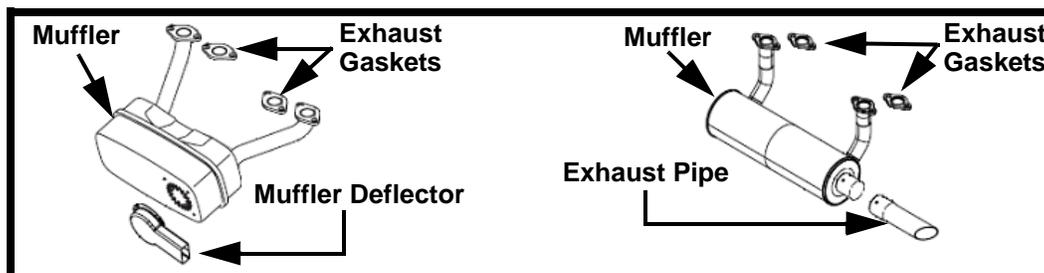

FIGURE 1
1. Make sure the required muffler deflector or exhaust pipe is removed from the old muffler and installed onto the new muffler. If the old muffler is missing the exhaust gaskets, muffler deflector or exhaust pipe, refer to the IPL (Illustrated Parts List) of the model of equipment the muffler is being serviced on. Figure 1 shows an example of a muffler with exhaust gaskets and muffler deflector or a muffler with exhaust gaskets and exhaust pipe.